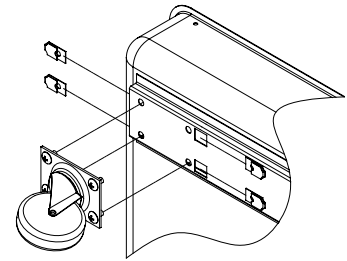

Fig. 1
**Note:** The installation kit includes (2) swivel casters with brake, (2) swivel casters without brake, (16) tinnerman nuts and (16) 1/4-20 x 1/2 screws.
- Place the unit on its side. Place the tinnerman nuts on the caster bracket on the bottom pan as shown in figure 1.